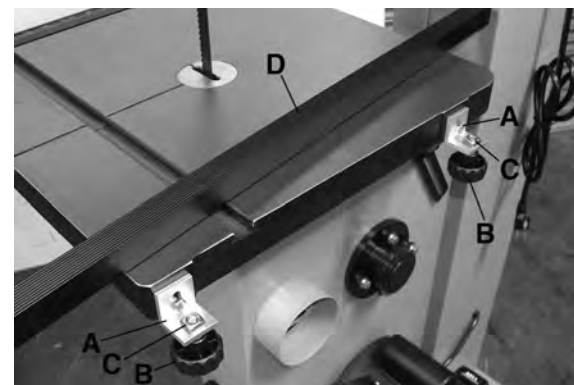
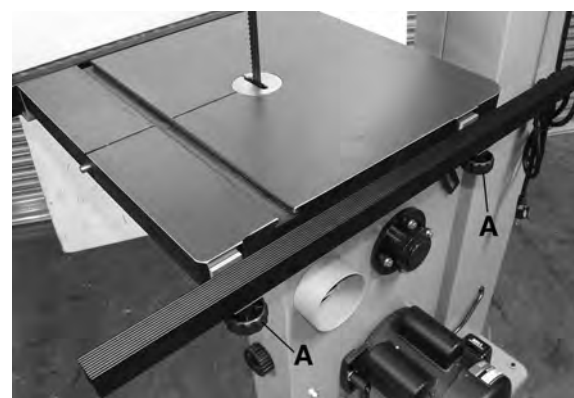

FIGURE 10
FIGURE 11
4. Mount the small rear rail mounting brackets (A) Fig.10 to the rear of the table using hex. bolts.
5. Mount lock knobs (B) Fig.10 and flat square nuts (C) to the mounting brackets as shown.
6. Slide the square slot at the bottom of the rear rail (D) Fig.10 onto both flat square nuts (C), tighten lock knobs (A) Fig.11 to secure the rear rail in the desired position.